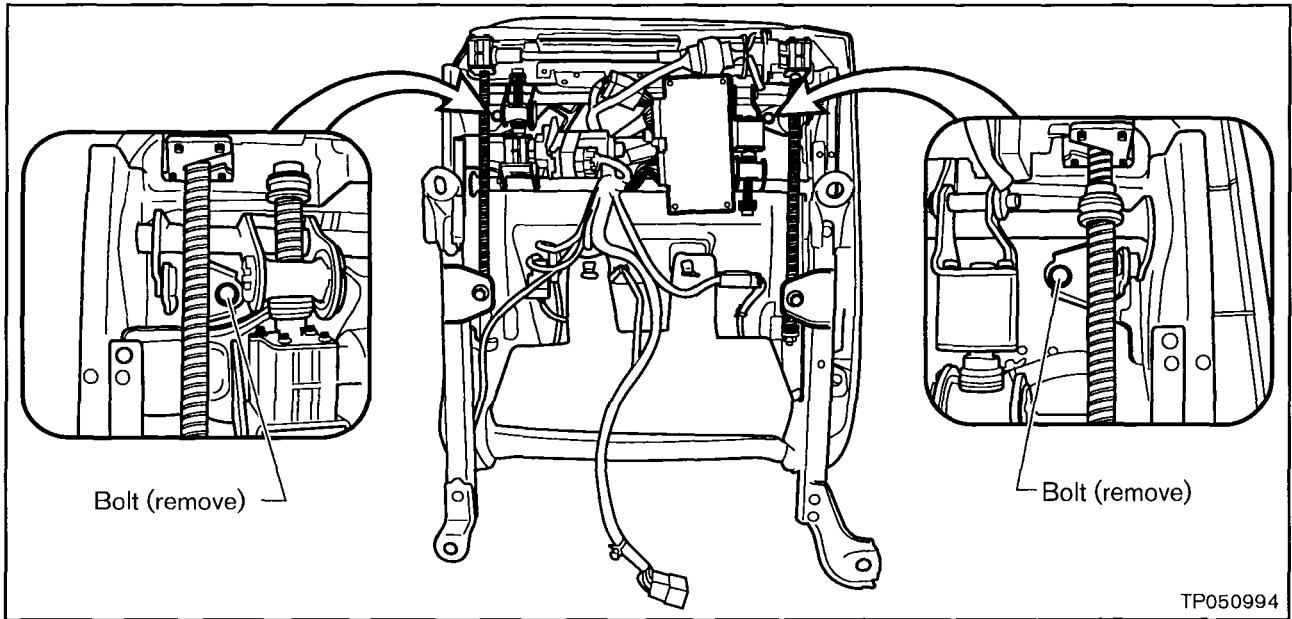

Figure 8
4. Remove the two front bolts that secure the lower cushion metal seat pan to the seat frame (see Figure 8).